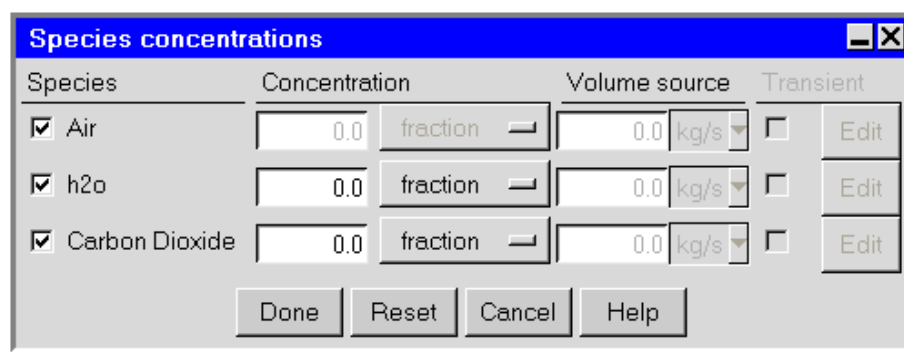

Figure 21.2.7: The Species concentrations Panel for a Source
- i. Select the check box for each Species for which you want to set a concentration in the Species concentrations panel (Figure 21.2.7).
- i. Select the check box for each Species for which you want to set a volume source in the Species concentrations panel (Figure 21.2.7).